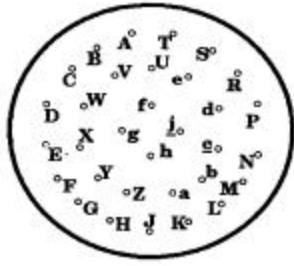

Figure 4. Mode 4 decoder – equipment setup
(1) Connect equipment as shown in figure 4.